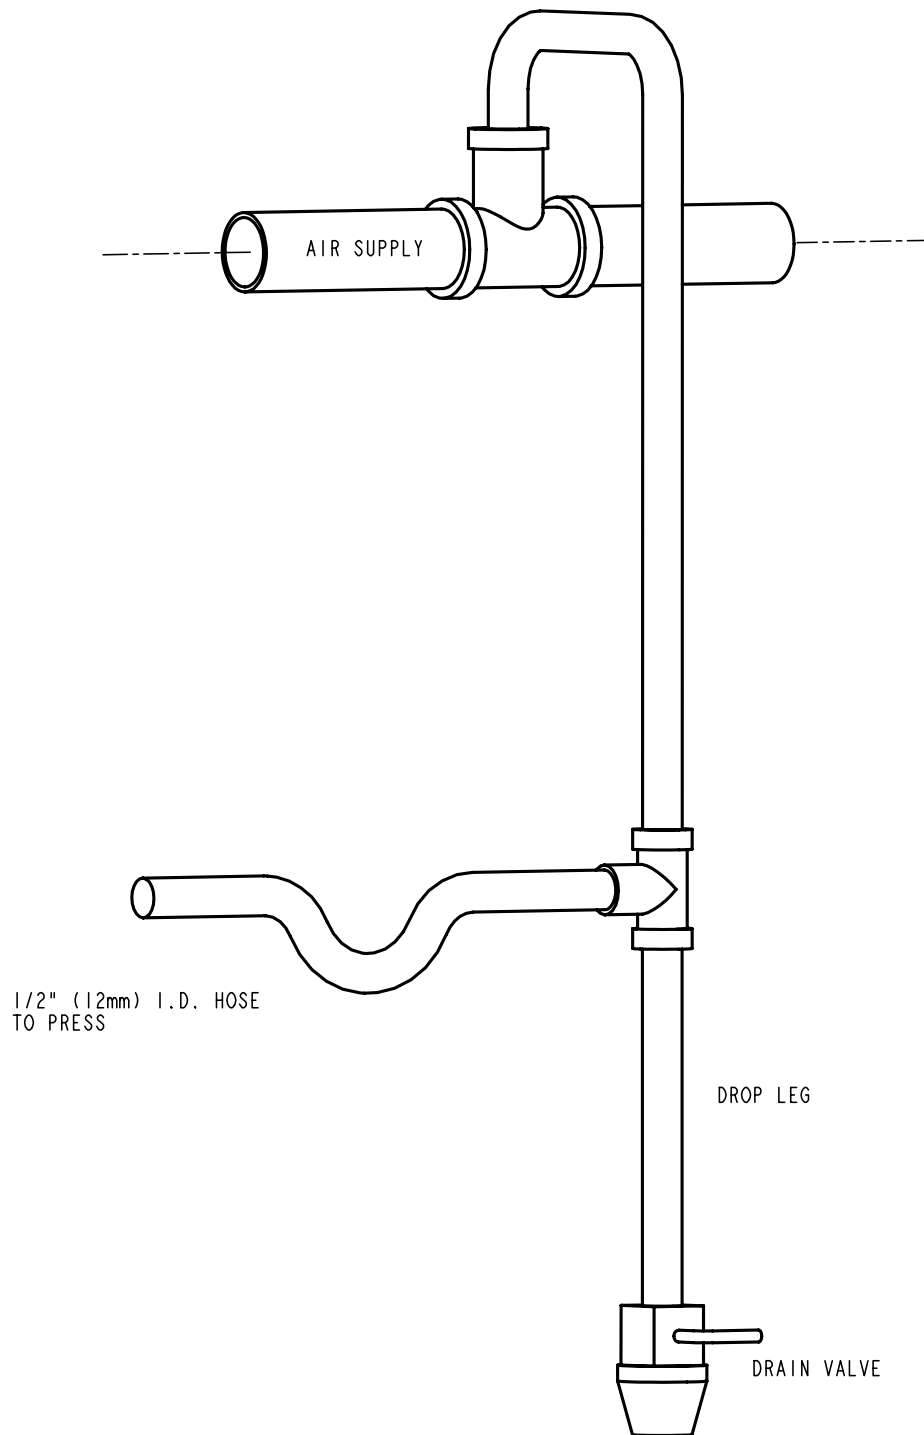

FIGURE 4-2
- **Piping Installation** – Proper piping hookup will help achieve the above requirements. See figure 4-2 on the next page.